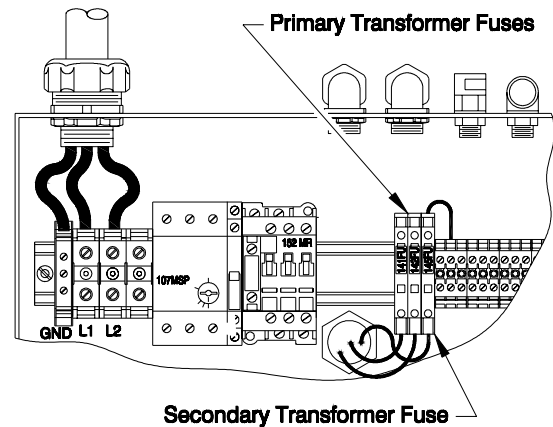

Figure 17. Transformer Fuse Location
6. CONTROL TRANSFORMER FUSES- With the power OFF, open the electric console, and check the (3) three control transformer fuses for continuity or simply replace them. (See Figure 17)